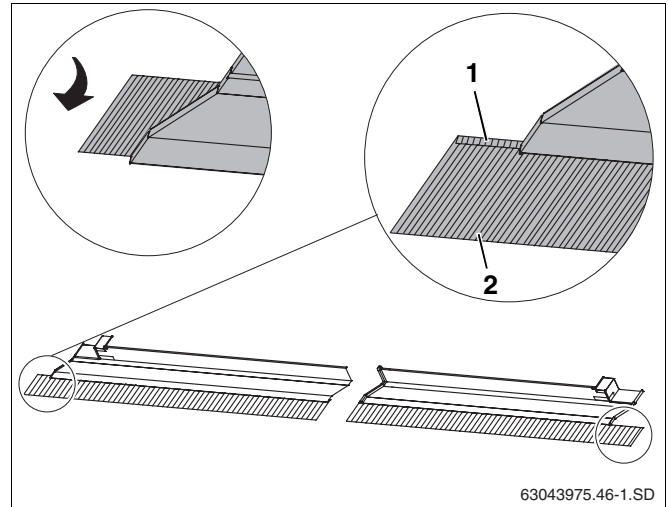

Fig. 43 Laying flashing
- ▶ Bend flashing for all facing panels towards the front (Fig. 43, **Item 2**).
- ▶ Likewise, lay the ends of the upper outer facing panels (Fig. 43, **Item 1**) towards the front.